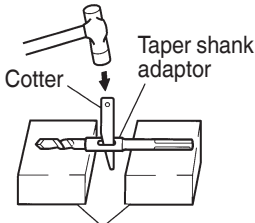

Fig. 13
- (2) Turn the power on and drill a base hole.
- (3) After cleaning out dust with a syringe, attach the plug to the anchor tip and drive in the anchor with a manual hammer.
- (4) To remove the drill bit with taper shank, insert a cotter into the slot of the taper shank adaptor, place supports under the Rotary Hammer and tap the cotter with a manual hammer. (Fig. 13)